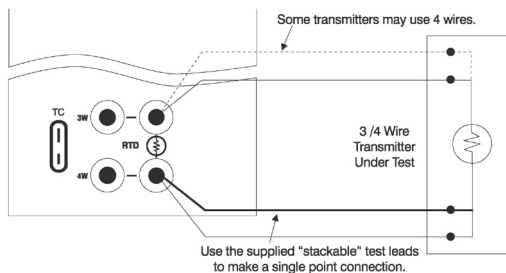

Figure 5.
1. As described previously in section A the PTC 400 can source resistance in a RTD Transmitter or measuring device. In many cases the unit under test will require a 3 or 4 wire connection to achieve best accuracy. Refer to Figure 5 for connection information.